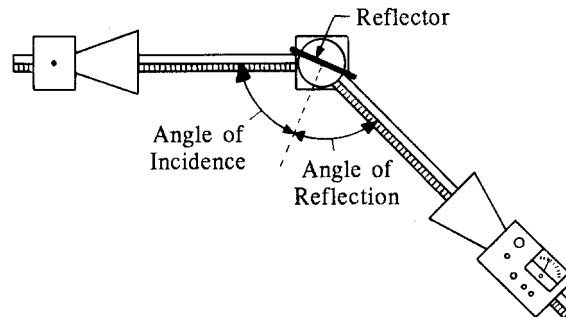

Figure 2: Angles of Incidence and Reflection
1. Arrange the equipment as shown in figure 2, with the Transmitter on the fixed arm of the Goniometer. Be sure the Transmitter and Receiver are adjusted to the same polarity (the horns should have the same orientation, as shown in the figure.